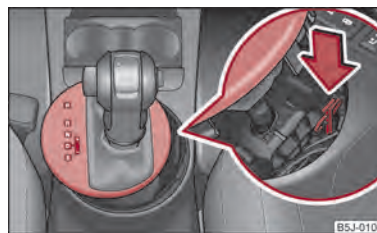

Fig. 86 Selector lever-emergency unlocking
- Use the finger to press the yellow plastic part downwards ⇒ fig. 86.